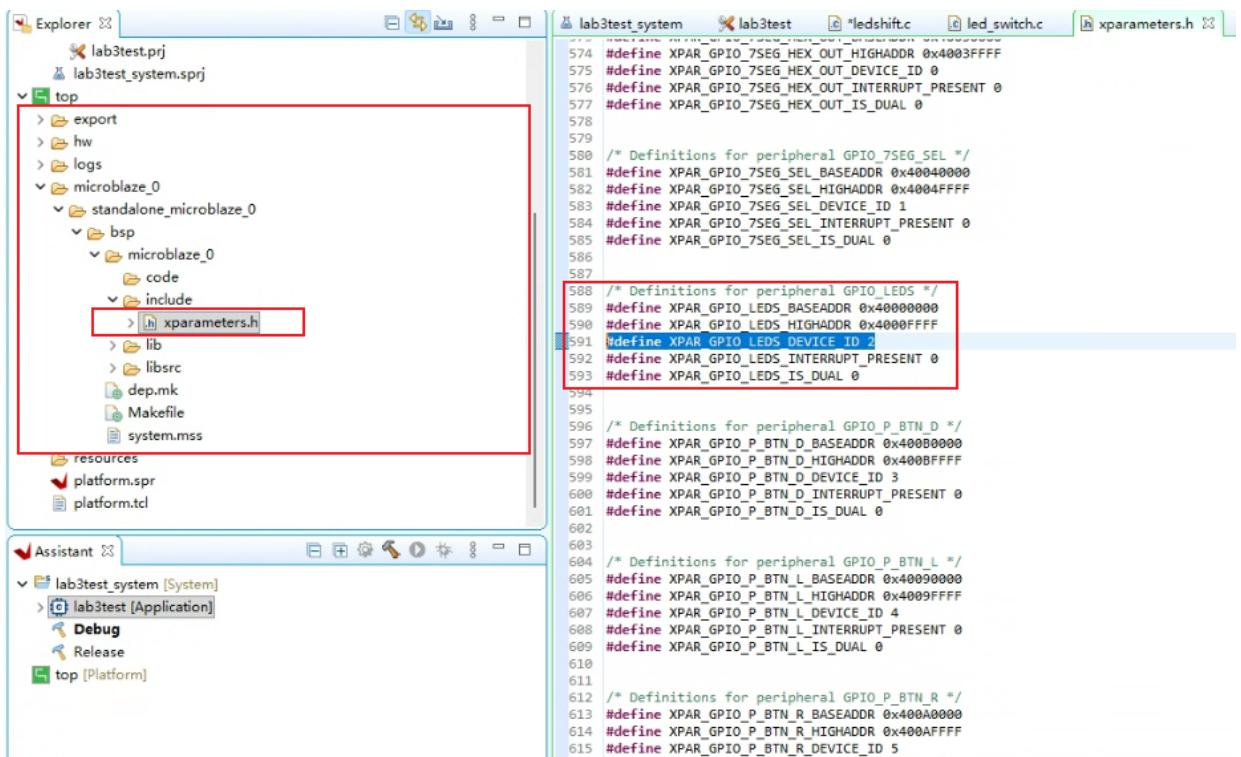

Figure 7.
- Confirm XPAR\_GPIO\_LEDs\_DEVICE\_ID device ID Number, As shown in Figure 7, the ID Number is 2 (`#define XPAR_GPIO_LEDs_DEVICE_ID 2`).